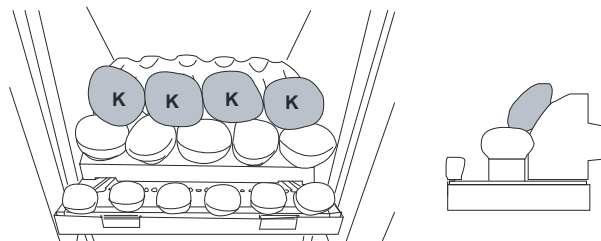
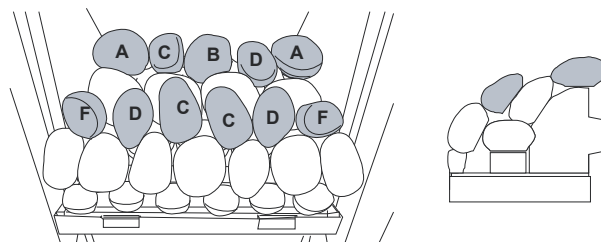

Figure 31
Figure 33
- Proceed with laying the rest of the pebbles in accordance with **Figure 31** to **Figure 33**.